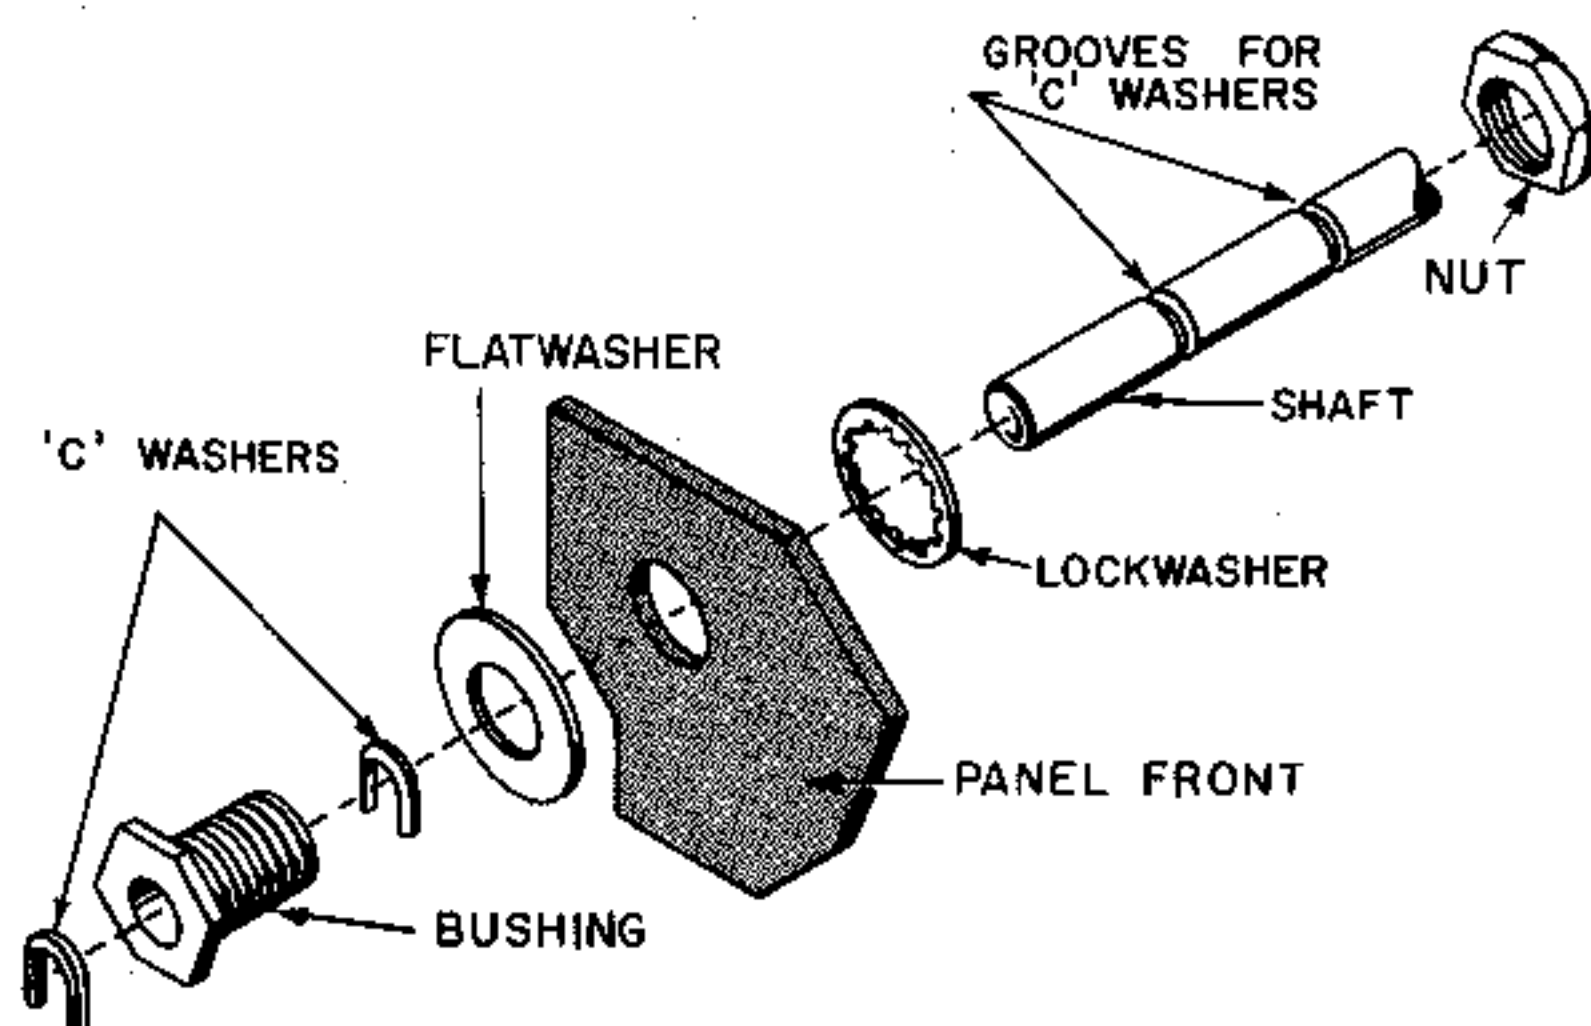

FIGURE 24. ANTENNA CONTROL ASSEMBLY
- Assemble the ANTENNA CONTROL shaft and bushing as shown in Figure 24. After the "C" washers are in the grooves, crimp them so they don't fall off.